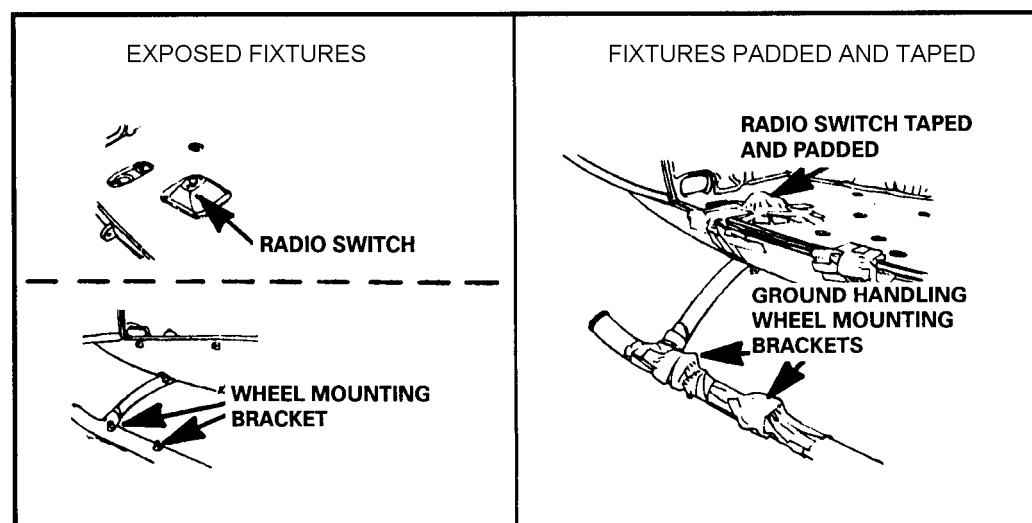

Figure 17-2. UH-1 exposed fixtures padded.
(1) Both cargo compartment doors are locked in the open position. If the doors cannot be locked, they are removed.
(2) All troop seats are removed except one seat on each side (located to the rear of the pilot and copilot seats). These two seats are installed so they are facing to the rear of the aircraft. If the parachutists are equipped with combat equipment and eight parachutists are to jump, all seats in the cargo compartment are removed.
(3) The door and frame are inspected to ensure there are no sharp edges that could cut or fray static lines. If these are determined to be hazardous, corrective action is taken before the helicopter is jumped.
(4) Under field conditions, the door and frame can be padded and taped to preclude a mission abort. Otherwise, the aircraft is returned to maintenance for correction of the deficiency.
(5) Safety belts are attached to the tie-down rings on each side of the compartment for floor-seated parachutists.
(6) The door gunner/crew chief foot-operated radio switch may be unscrewed (by hand) before jumping. The exposed radio switch wires are taped to prevent an electrical short. If the switch is not removed, it is padded and taped. The ground-handling wheel-mount brackets on both landing skids are padded with cellulose wadding and taped (Figure 17-2). Some aviation units have fabricated special covers that may be used to cover the wheel-mount brackets.